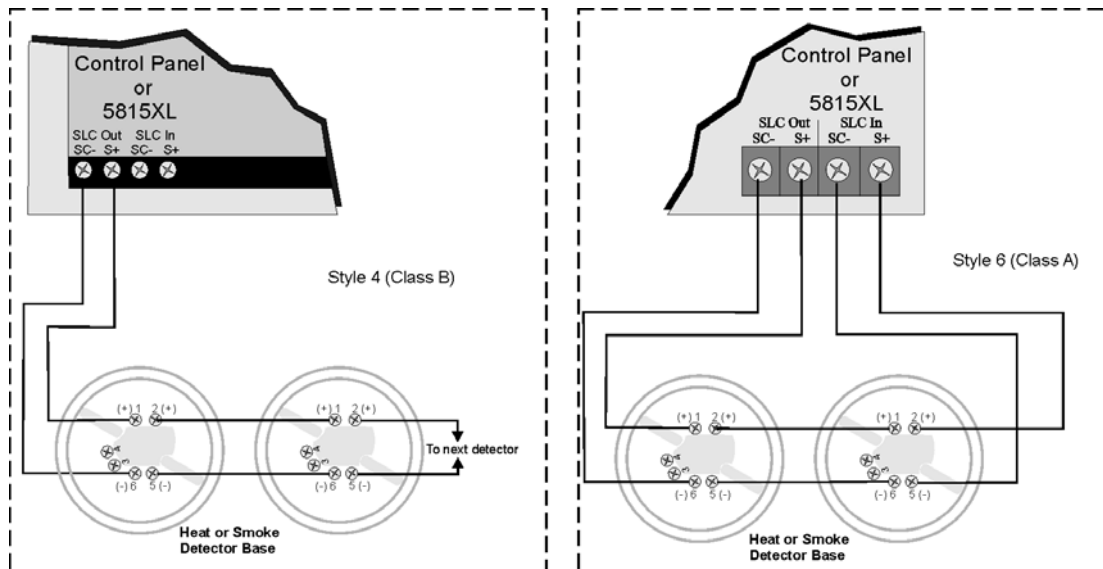

Figure 7.6 Heat or Smoke Detector Connection to the FACP
1. Wire device bases as shown in Figure 7.6.